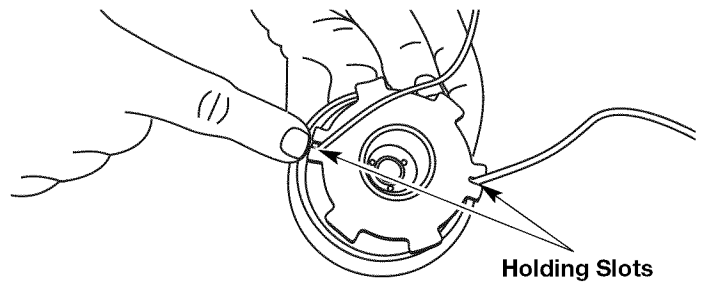

Fig. 22
- Insert the ends of the line into the two holding slots (Fig. 22).